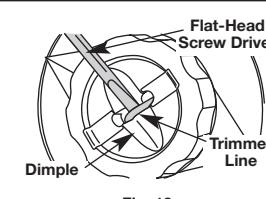

Fig. 13
- Using a flat-head screwdriver, insert the tip into the line dimple and just under the exposed portion of the line (Fig. 13).